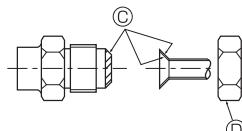

Fig. 5-5
Ⓐ (Fig. 5-5)
5.5. Connecting pipes (Fig. 5-4) (Fig. 5-5)
- The indoor parts of the drain pipe should be wrapped with polyethylene foam insulation materials (specific gravity of 0.03, thickness of 9 mm (3/8 inch) or more). [Fig. 5-5]